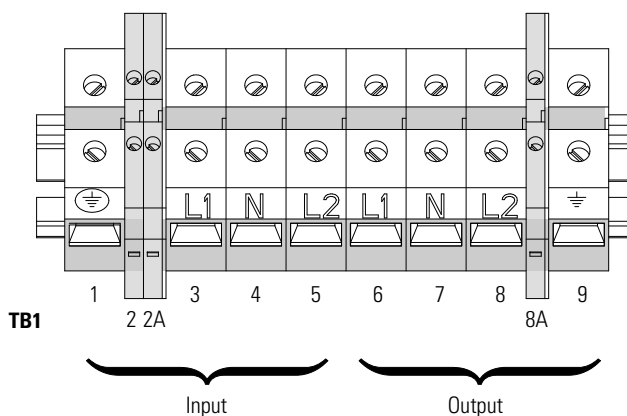

Figure 11. UPS Terminal Block
12. Wire the output of the input isolation transformer terminal block to the UPS input terminal block (see Table 3 and Figure 11).